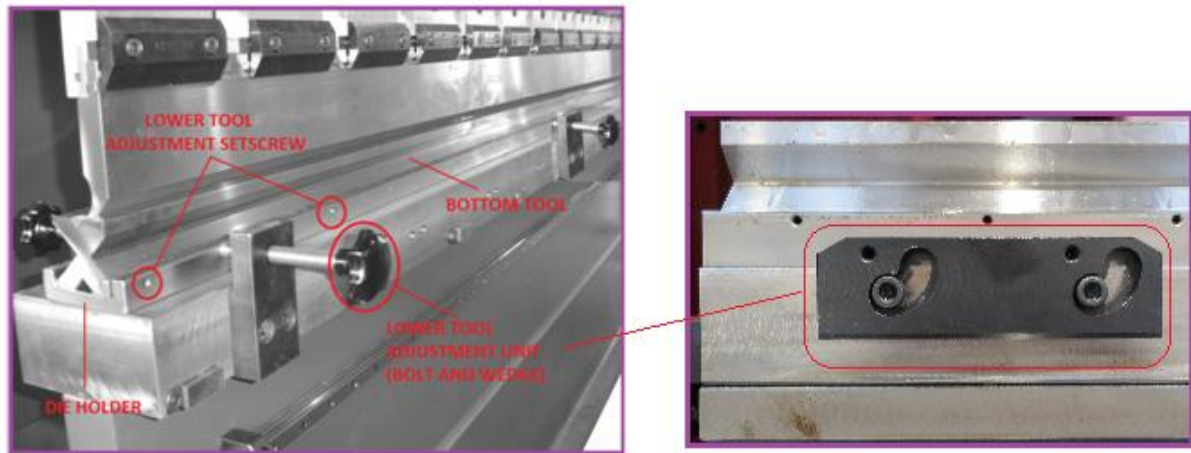

Figure-30: Lower tools adjustment parts.
1. Loosen up the lower tool adjustment setscrews (See Figure-30) along the die holder.